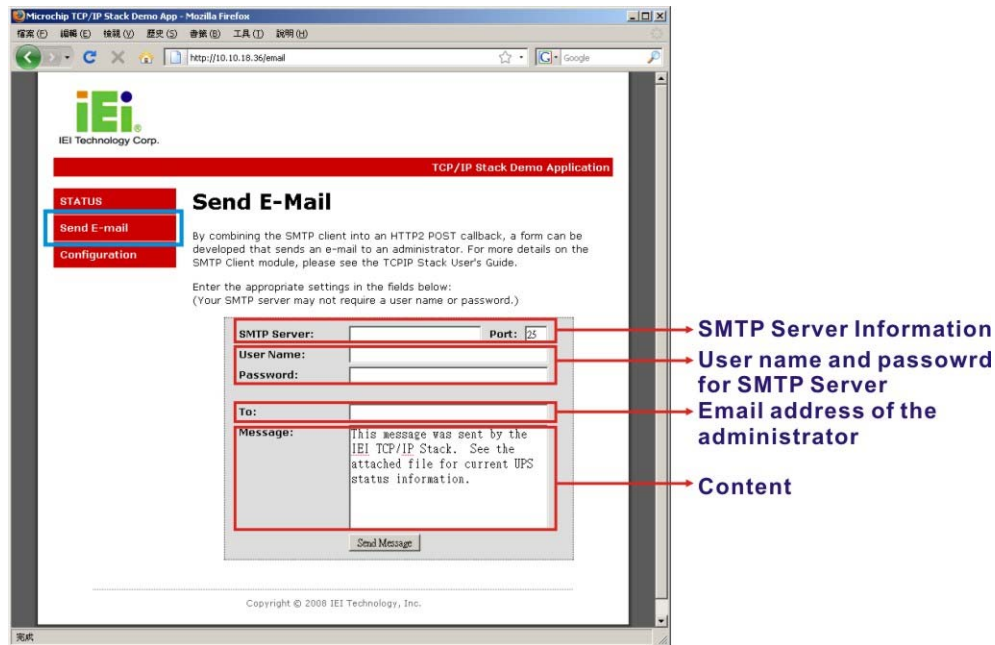

Figure 8-19: Remote Management Web Interface - Send Email
Step 6: To send an email to an administrator through the SMTP server, click Send E-mail button on the left. Fill out the information as indicated in **Figure 8-19**. Click the **Send Message** button to send the email.